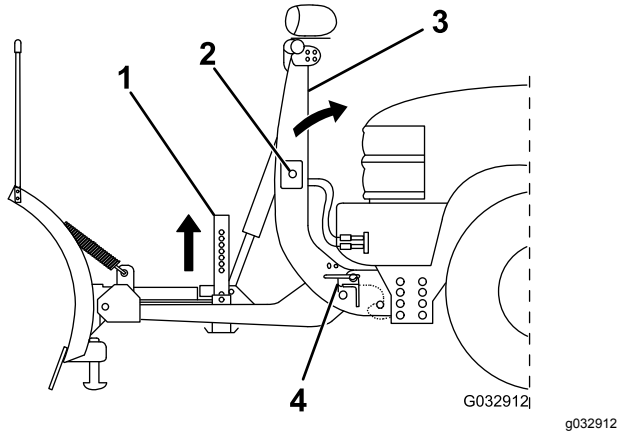

Figure 35
5. Push the SmartHitch2 switch on the side of the coupler tower upward and raise the tower until the coupler spring pins snap in (Figure 35).
7. Pull the kickstand spring pin outward and raise the kickstand, then release the spring pin to secure it (Figure 35).